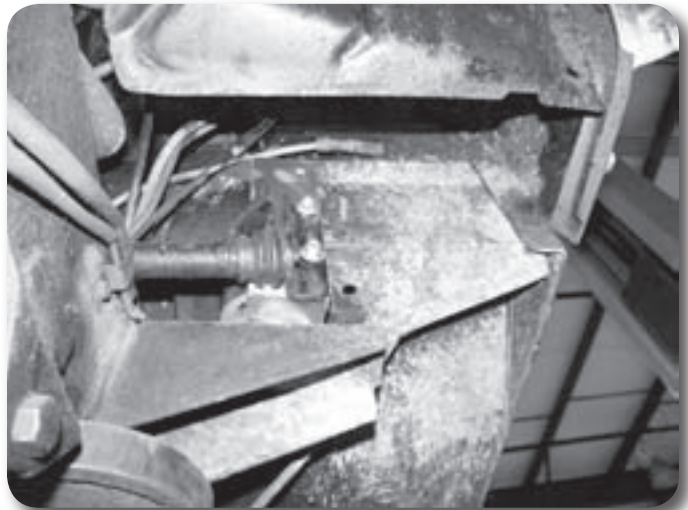

Figure 9
32. Cut or remove lower clutch bracket mounting stud – Fig 9.